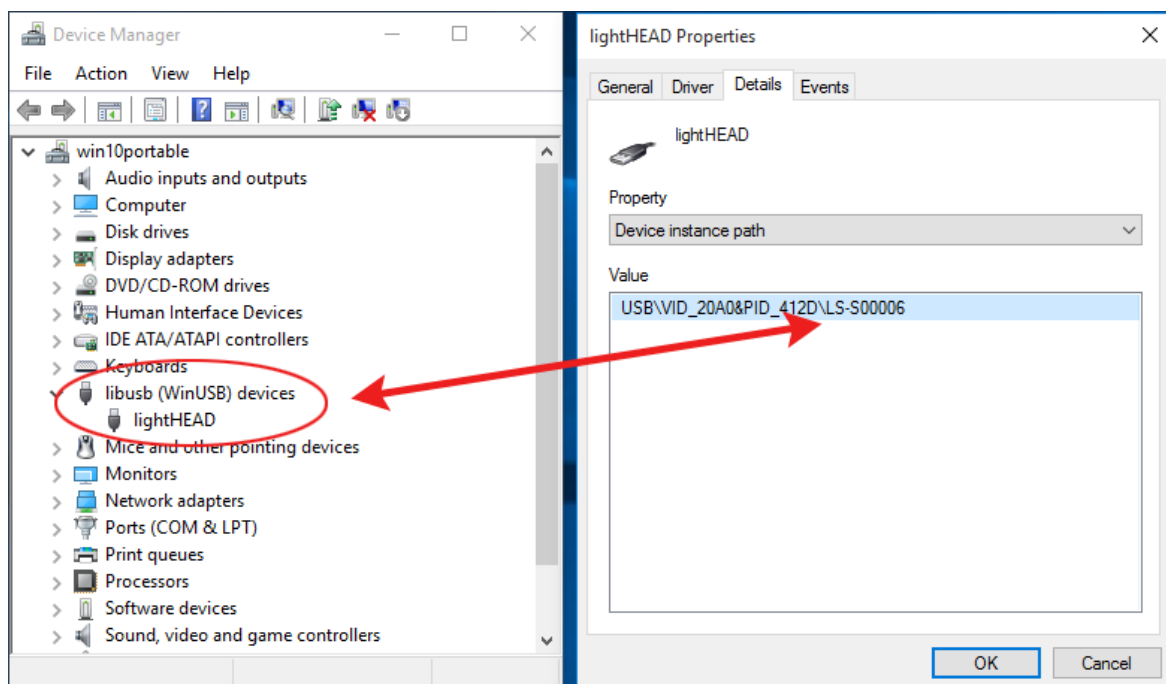

Figure 1: Identify Serial Number in the Device Manager
- With the "Device manager" from Windows as shown in Figure 1: